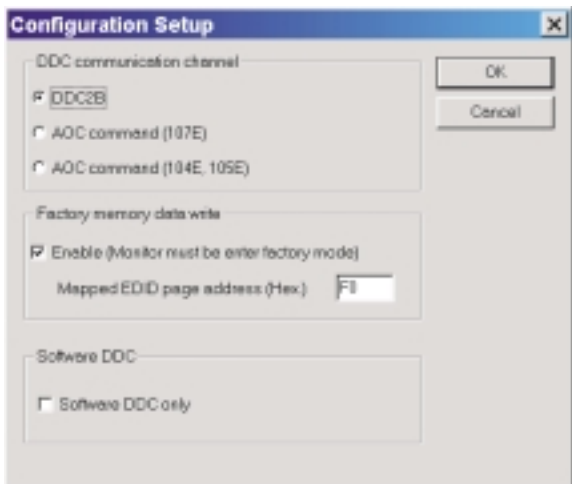

Fig. 12
- 1-2 Click icon as shown if Fig. 11 from the tool bar to bring up the "Configuration Setup" windows as shown in Fig. 12.
- 2. Select the DDC2B as the communication channel. Select "Enable" & fill out "F0" for Mapped EDID page address as shown in Fig. 12.